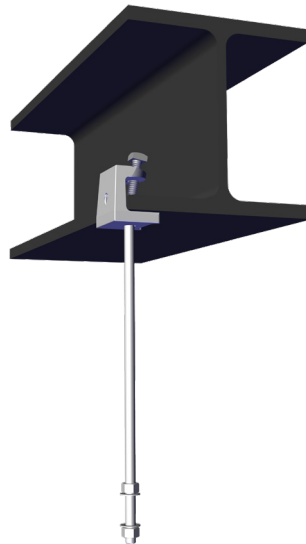

Figure 22. Rod attachment
2. Beam clamp supports 1/4" threaded rod as shown in Figure 22. (rod and horn mounting hardware not included).
3. One or two clamps may be used to suspend the horn. One clamp in the center position is shown in Figure 22.